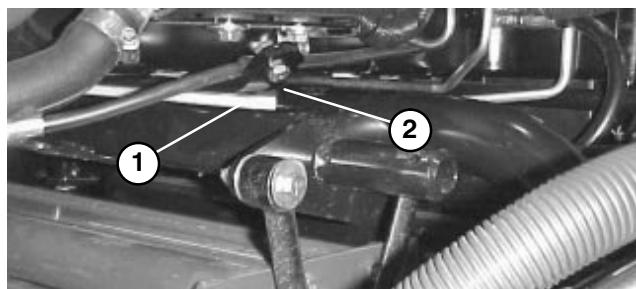
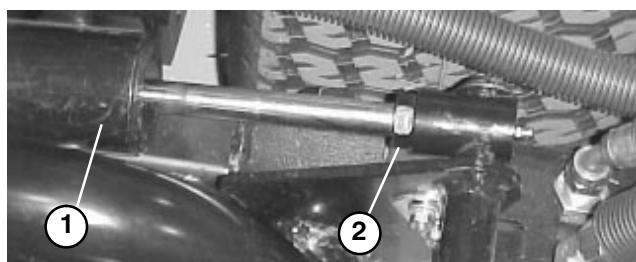

Figure 26
Figure 27
3. Start engine, raise lift arms and check to make sure clearance between wear strap on top of rear cutting unit wear bar and bumper strap is .020" – .100" (Fig. 26). If clearance is not in this range, adjust rear cylinder to attain clearance. To adjust cylinder, lower the cutting units and back off the jam nut on the cylinder (Fig. 27). Grasp cylinder rod close to the nut